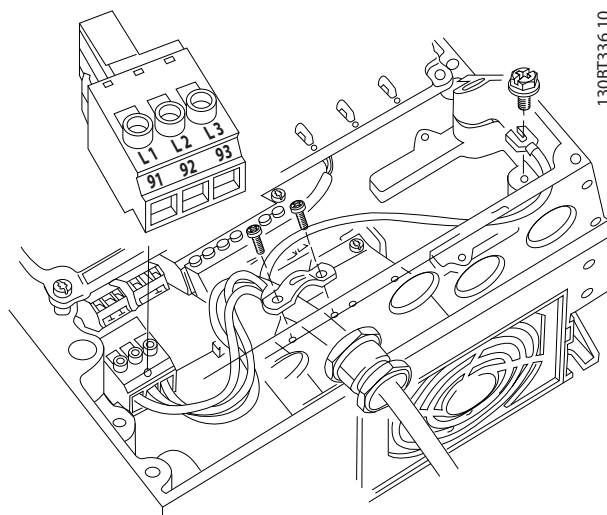

Figure 2.19 Connecting to AC Line Power
- Connect 3-phase AC input power wiring to terminals L1, L2, and L3 (see *Figure 2.19*).